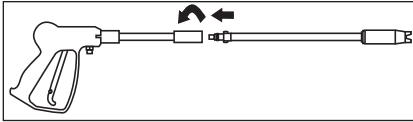

Figure 5 - Gun/Lance Connection
1. Insert lance into the gun and turn clockwise to positive stop as shown in Figure 5.